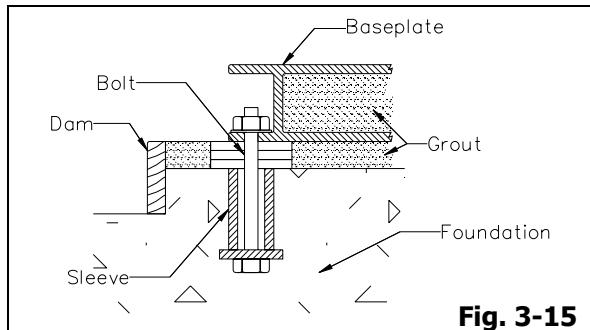

Fig. 3-15
5. Fill remainder of baseplate with grout. Remove air as before (Fig. 3-15).